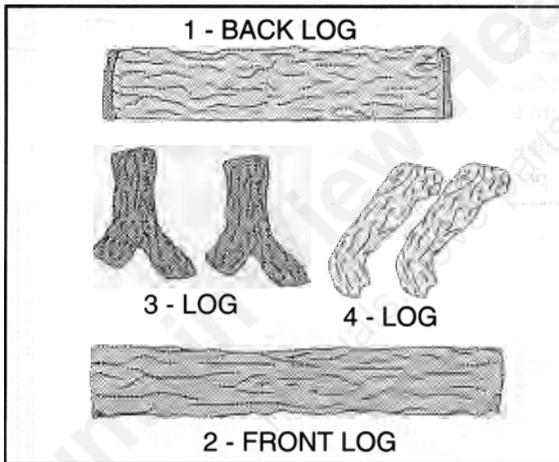
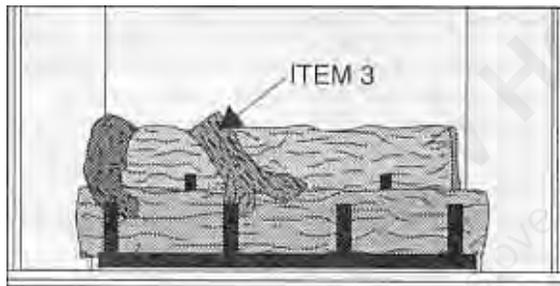

Figure 39
Figure 44
5. See Figure 44. One of the "Y" logs (Item 3) is installed next. See Figure 39 for identification. The "Y" portion of the log will rest on the Front Log. The "straight" portion of the log will rest on the Back Log. This log is positioned at an angle with the "Y" slightly to the right.